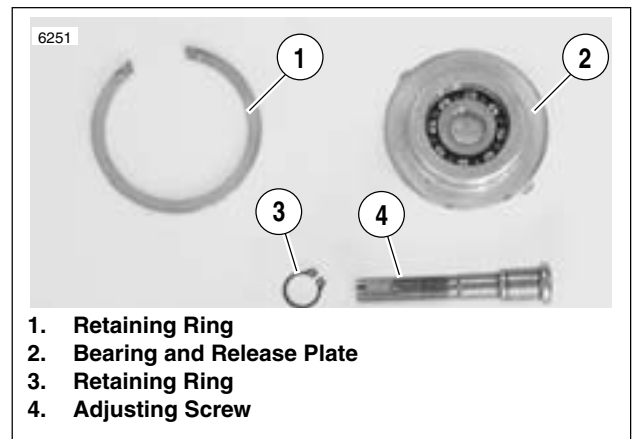

Figure 6-23. Adjusting Screw Assembly
4. See Figure 6-23. Remove the clutch pack from the hub/shell assembly. The pack consists of five fiber plates and five steel plates.
4. See Figure 6-23. Remove adjusting screw assembly.
- b. See Figure 6-23. Secure the adjusting screw assembly with large retaining ring.
11. See Figure 6-23. Remove and disassemble adjusting screw assembly.
- a. See Figure 6-23. Place bearing inside release plate. Insert adjusting screw through bearing and release plate. Secure with **new** retaining ring.
- b. See Figure 6-23. Secure the adjusting screw assembly with retaining ring.